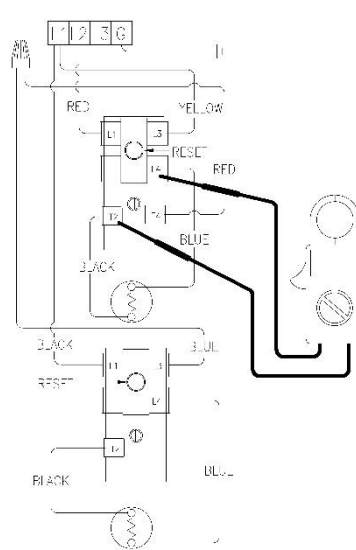

Figure 18
4. Check across terminals L4 and T2 of upper thermostat (see Figure 18).
4. See Figure 18 above. Check voltage across terminals L4 & T2 of upper thermostat.